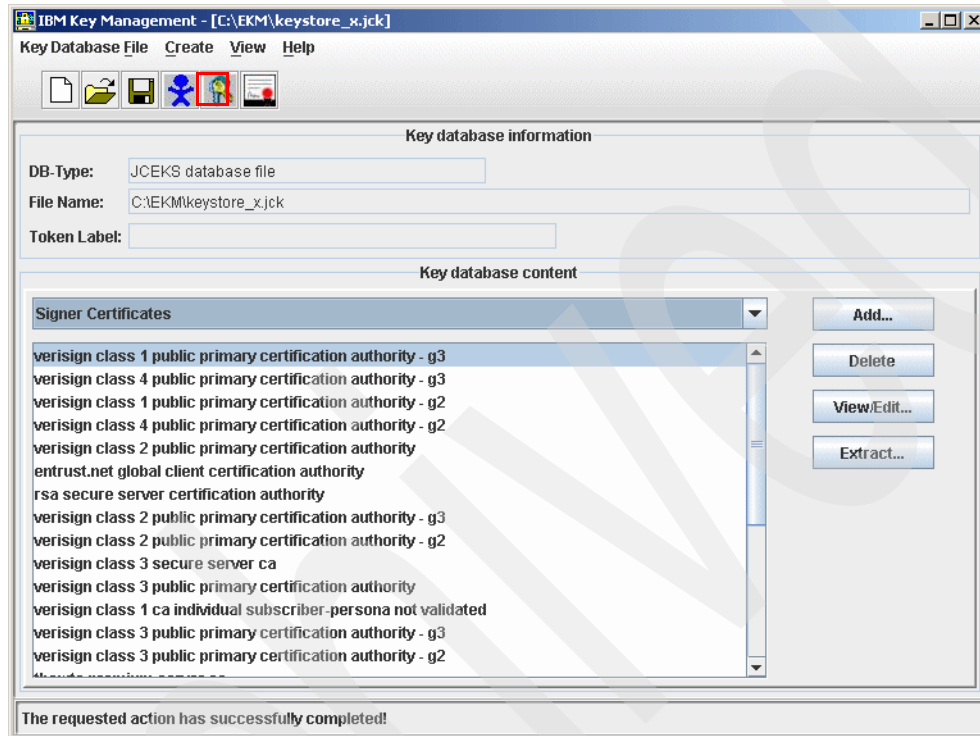

Figure 6-21 Creating new key and certificate request
1. In the IBM Key Manager window, click the **Create new key and certificate request** icon on top of the page, shown highlighted in Figure 6-21.